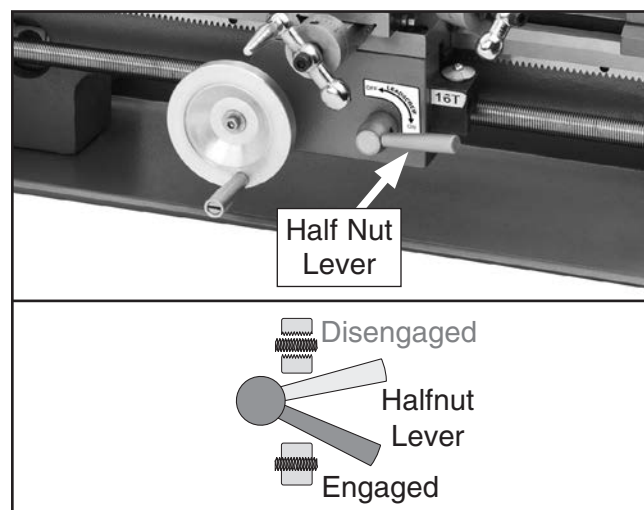

Figure 53. Half nut lever engaged.
10. Push half nut lever down to engage power feed (see **Figure 53**).